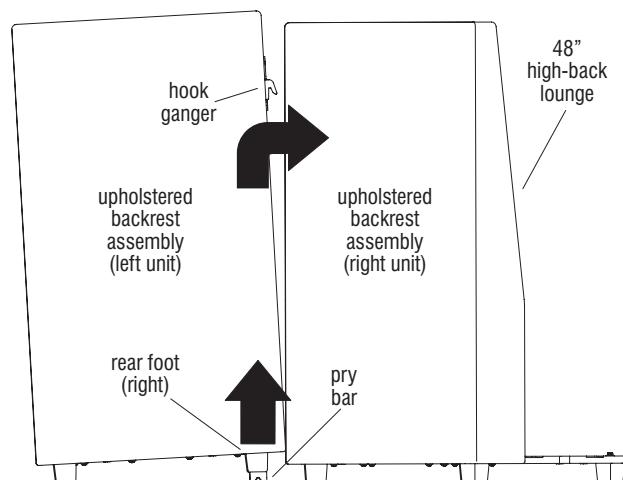

Figure 4
11. Carefully lower the left lounge unit while guiding and rotating the hook of the ganger into the flat plate slot (Figure 4 & Detail F).